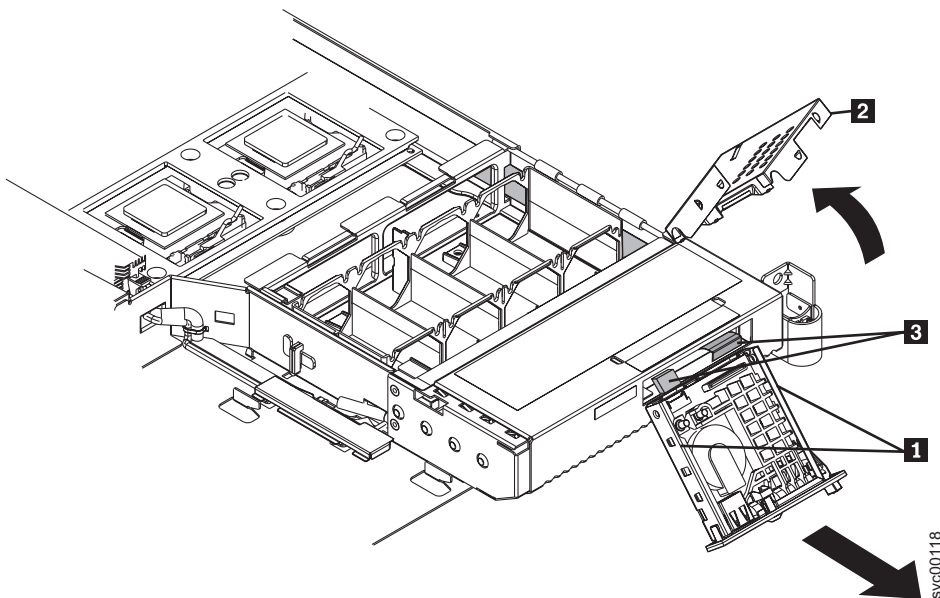

Figure 221. SAN Volume Controller 2145-8F2 with exposed operator-information panel
6. Use a small screwdriver to push in the retention springs (**1** in Figure 221) on the sides of the operator-information panel assembly.
9. Rotate the assembly cover (**2** in Figure 221) up and off of the operator-information panel assembly.
10. Unplug the two cables from the rear of the assembly (**3** in Figure 221).